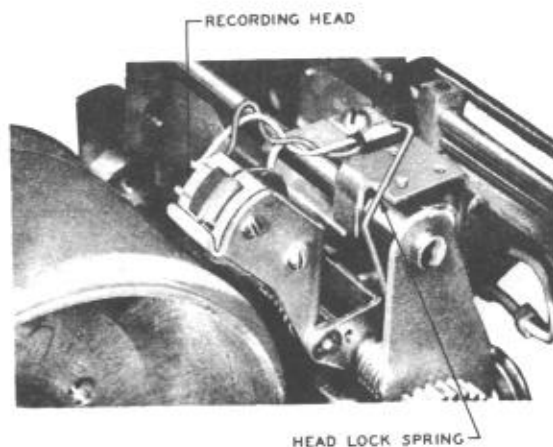

Fig. 6 — Recording Head Shown in Operating Position with Head Lock Spring in Notch in Carriage Bracket
5. Release the recording head. Place the head lock spring in the notch in the carriage bracket (see Fig. 6).